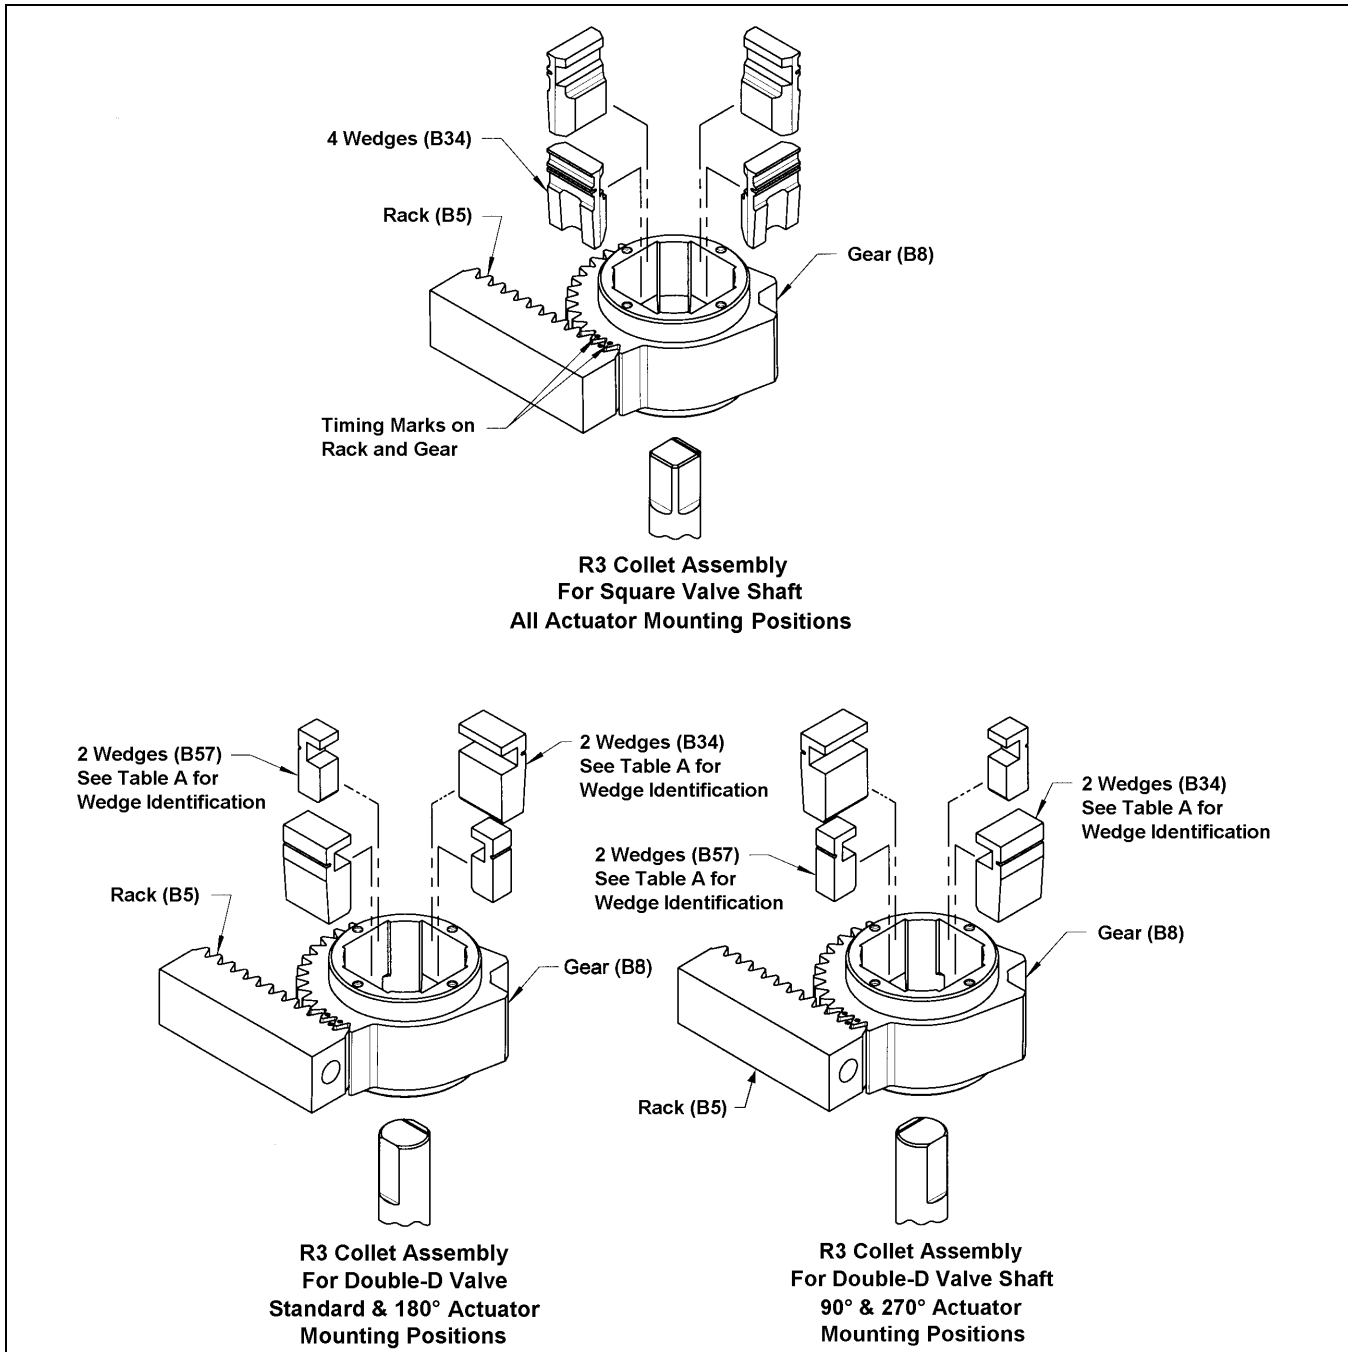

Figure 3 – Collet Assembly and Gear Information
10. With the four tapped holes facing upwards, place the gear (B8) into the housing bearing (B2) so that the marked tooth on the rack (B5) meshes between the two marked teeth on the gear as shown in Figure 3.
Table A : Wedge Identification Numbers for Double-D Valve Shafts in Figure 3
Note: If the valve has a double-D shaft connection, the actuator may be mounted 180° from the original position with existing components. The actuator may be mounted 90° or 270° from the original position with a new alternative gear (B8). To change to the other configuration, obtain the new gear, remove the cover screws (B15), the cover (B11), and the gear (B8). Then assemble the new gear, rearrange the collet wedges as shown in Figure 3, and replace the cover as described in steps 10 and 12 of the *Actuator Reassembly* section.
Follow the steps below to change the unit from the unlocked condition to the locked closed position. Refer to Figure 3 for component identification. Before proceeding, the open and closed position stops must be correctly adjusted as described in the *Open and Closed Stops* section.